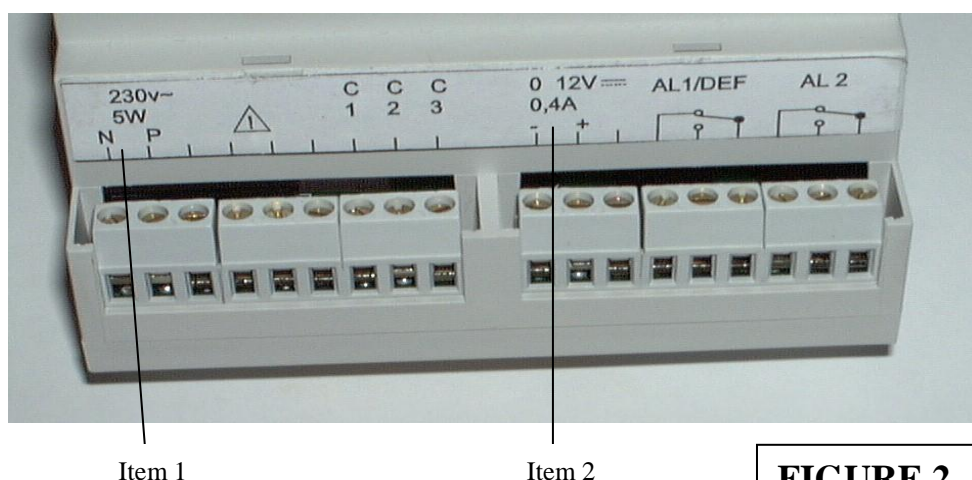

FIGURE 2
The mains power supply must be wired on the two points marked N (Neutral) and P (Phase) on the Surveyor 4B terminal block (see Fig 2, item 1).
The 12 volt power supply can be connected to the points marked 0 and 12 V on the Surveyor 4B terminal block (see Fig. 2, item 2).